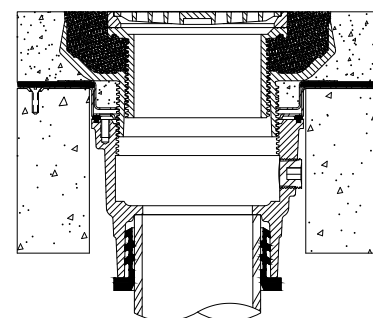

Fig. 14S
- 14. Turn head assembly clockwise until top of strainer is flush with the finish floor. Wipe away excess silicone. Remove protective label once construction is complete. See Fig. 14S
- 14. Fill in rough-in adapter with cement or grout. Ensure to completely fill in around entire head assembly flush with finished floor. Remove protective label once construction is complete. See Fig. 14S